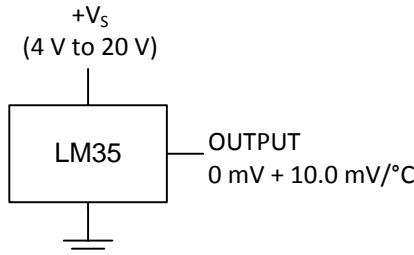

Figure 14. Basic Centigrade Temperature Sensor (2 °C to 150 °C)
Unless otherwise noted, these specifications apply: $-55^\circ\text{C} \leq T_J \leq 150^\circ\text{C}$ for the LM35 and LM35A; $-40^\circ\text{C} \leq T_J \leq 110^\circ\text{C}$ for the LM35C and LM35CA; and $0^\circ\text{C} \leq T_J \leq 100^\circ\text{C}$ for the LM35D. $V_S = 5\text{ Vdc}$ and $I_{LOAD} = 50\text{ }\mu\text{A}$, in the circuit of Full-Range Centigrade Temperature Sensor. These specifications also apply from 2°C to T_{MAX} in the circuit of Figure 14.
(6) Quiescent current is defined in the circuit of Figure 14.